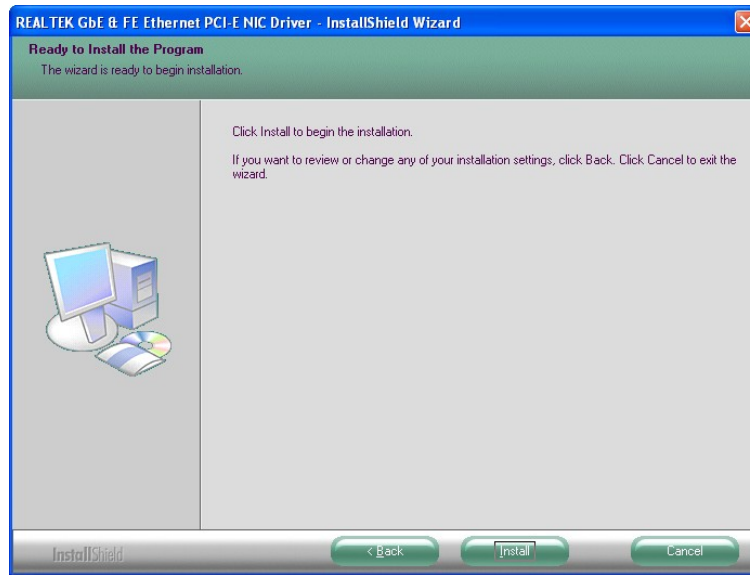

Figure 6-14: LAN Driver Installation
**Step 6:** The **Ready to Install the Program** screen in **Figure 6-14** appears.